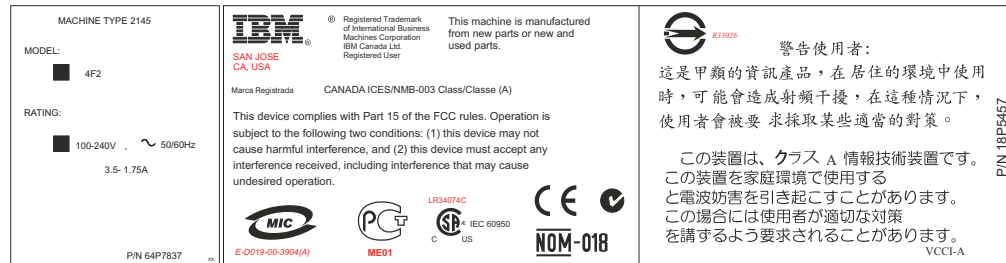

Figure 1. Agency/ratings label for the SAN Volume Controller
1. Agency/ratings label. See Figure 1.